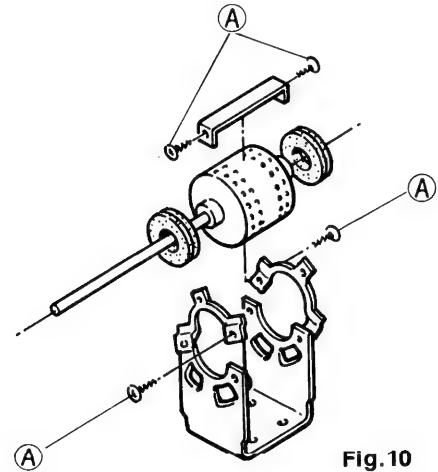

Fig. 10
- ⑦ When the four screws (A) are removed as shown in the figure, the fan motor can be removed. Fig. 10.